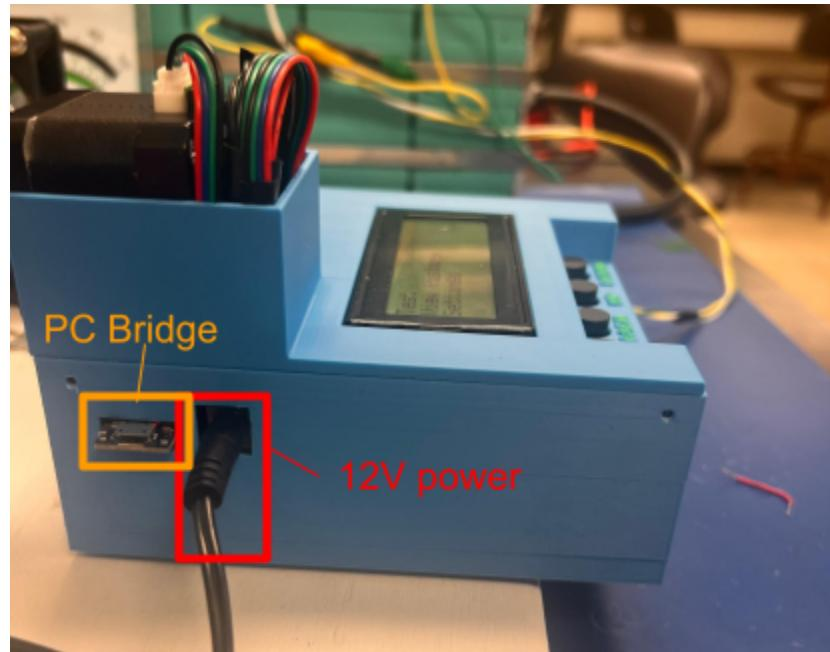

Figure 1.3: Left Side Panel Layout (JL)
Connect the sense wires in the following order from bottom to top: black, green, yellow, white, and red. For the shunt wires, orange should be on top, followed by white. Use figures 1.3 and 1.8 as a visual representation of how the wires should be connected (JL).